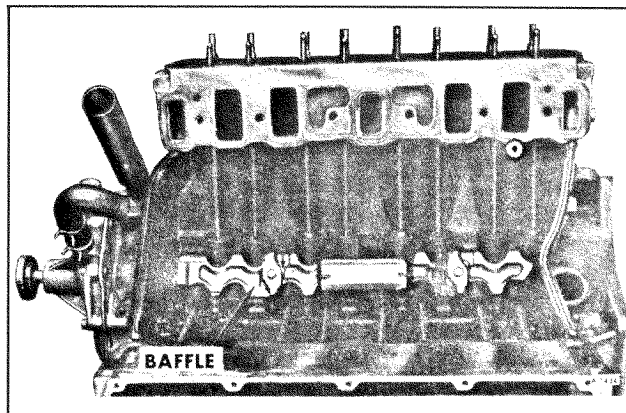

Figure 22-Baffle Installation
2. Install baffle as shown in Figure 22. Install manifold gaskets and manifold. Refer to "Intake Manifold" earlier in this section.